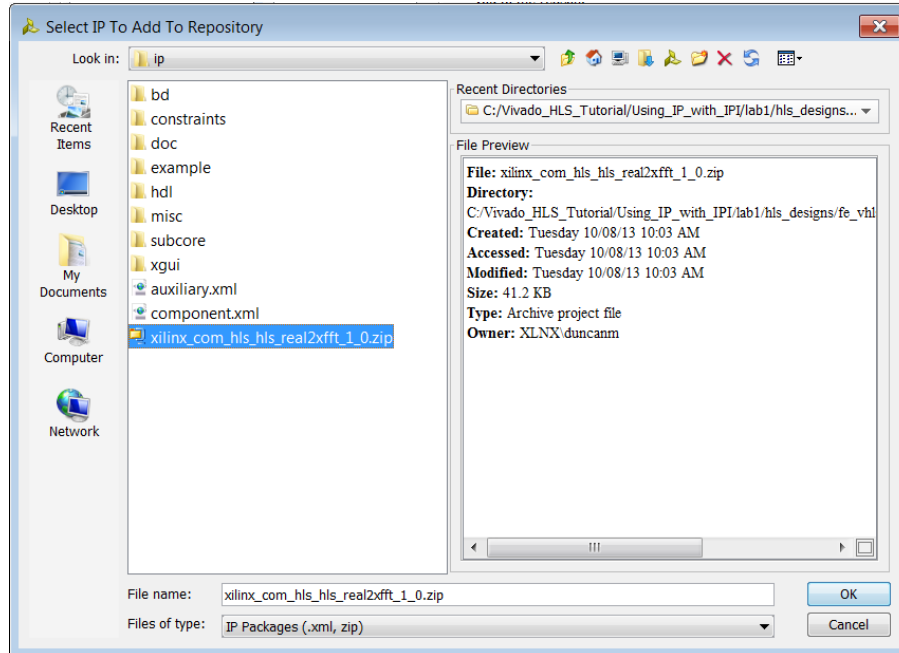

Figure 192: Add the HLS IP to the Repository
- c. Select the xilinx_com_hls_hls_real2xfft_1_0.zip file (**Figure 192**).